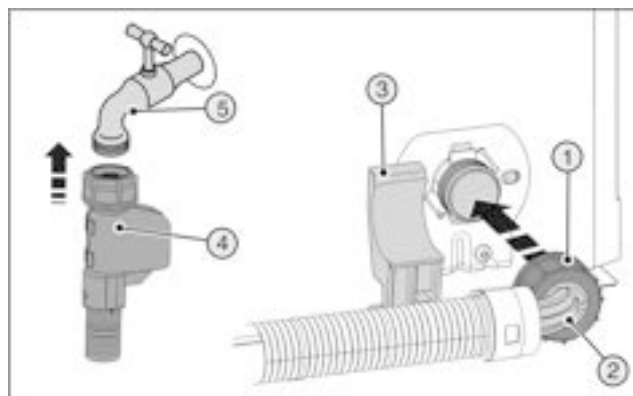

Fig. 22
- Connect the straight end of the hose Fig. 22 (4) to the stopcock Fig. 22 (5).